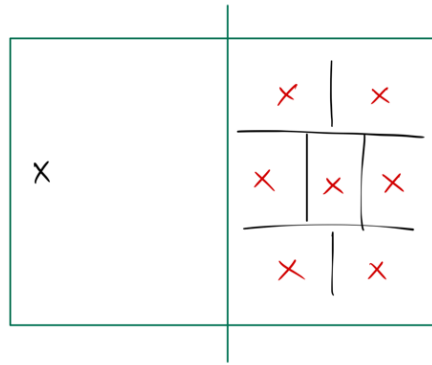

Figure 2: Table Tennis Serving Points on Table
- A minimum of 7 serving points on the table, including both sides, as seen in Figure 2.